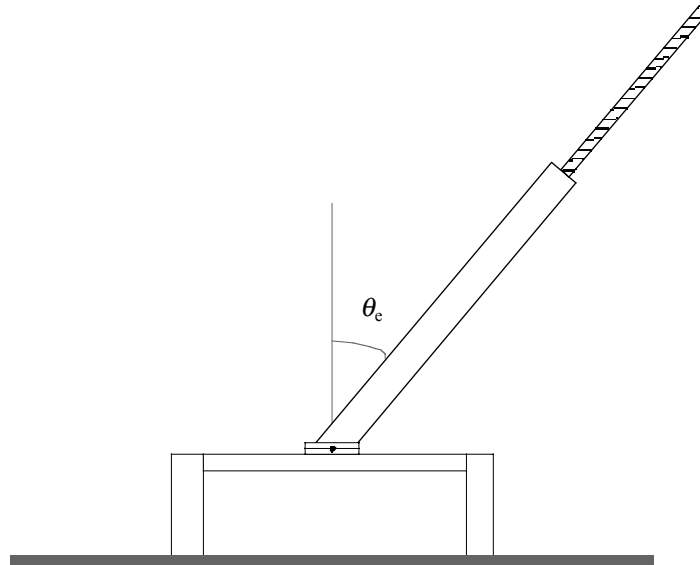

Figure 4: In this measurement set the pendulum so that its equilibrium position deviates from the vertical.
5. In order to determine κ , assemble now the pendulum and set it with its rotation axis horizontal. The threaded rod must initially be as far as possible inside the pendulum. Lock the pendulum to the steel wire, with the hex screw, at about half way between the wire clamps and in such a way that its equilibrium angle (under the combined action of weight and elastic recall) deviates sizeably from the vertical (see figure 4). Measure the equilibrium angle θ_e for several values of x (at least 5). *[4 points]*